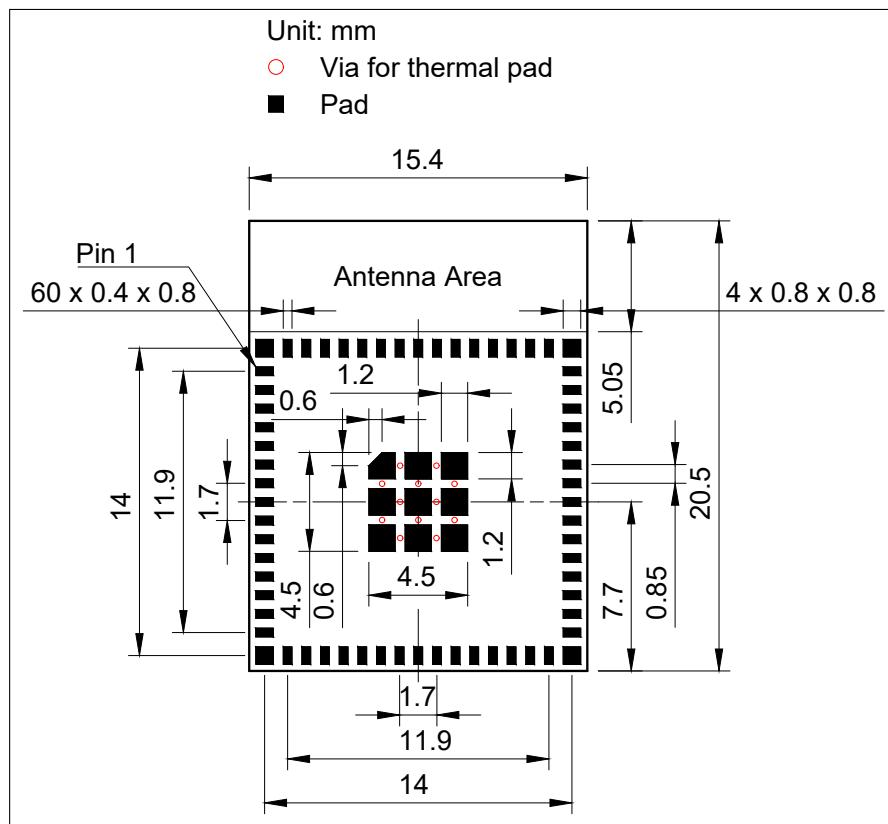
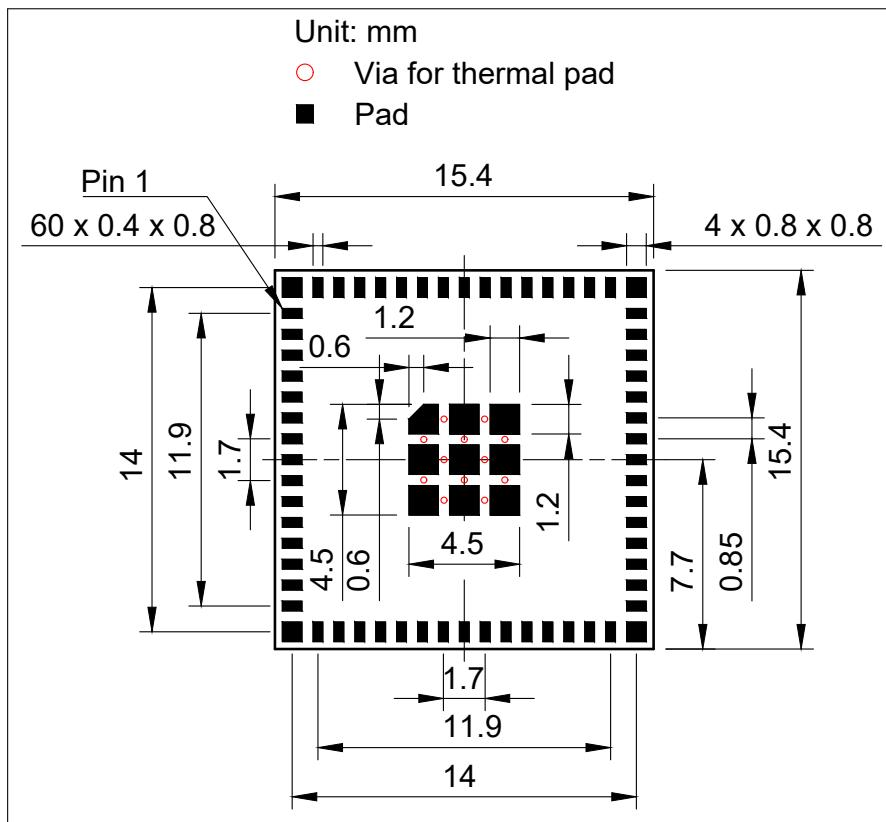

Figure 11: ESP32-S3-MINI-1 Recommended PCB Land Pattern
Figure 12: ESP32-S3-MINI-1U Recommended PCB Land Pattern
- Figures for recommended PCB land patterns with all the dimensions needed for PCB design. See Figure 11 ESP32-S3-MINI-1 Recommended PCB Land Pattern and Figure 12 ESP32-S3-MINI-1U Recommended PCB Land Pattern.
- Source files of recommended PCB land patterns to measure dimensions not covered in Figure 11 and Figure 12. You can view the source files for ESP32-S3-MINI-1 and ESP32-S3-MINI-1U with Autodesk Viewer.